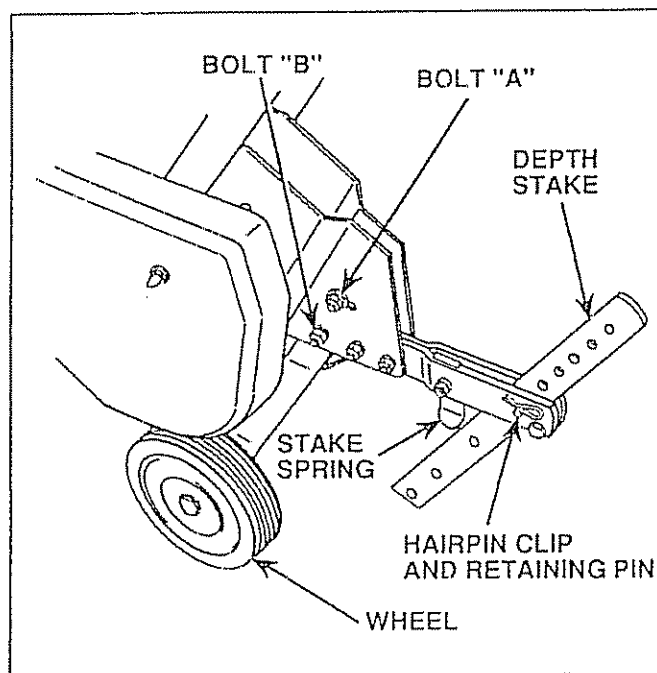

FIGURE 8
- The Depth Stake can be raised or lowered to allow you more versatile tilling and cultivating, or to more easily transport your tiller (Fig 8)
- Adjust Wheels by loosening bolts "A" & "B". Move wheels to desired position and retighten bolts "A" & "B"(Fig. 8).